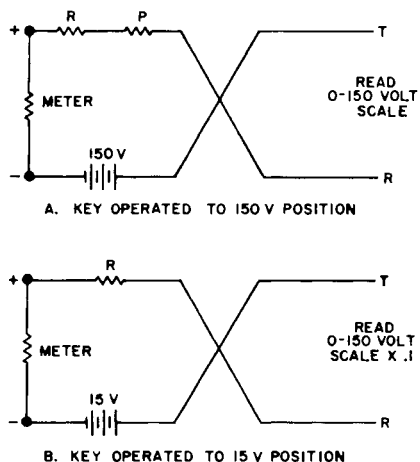

Figure 14. Loop test with battery in series with meter and line.
5.2.7 Loop test with 150-volt test battery in series with the meter and the line (figure 14).